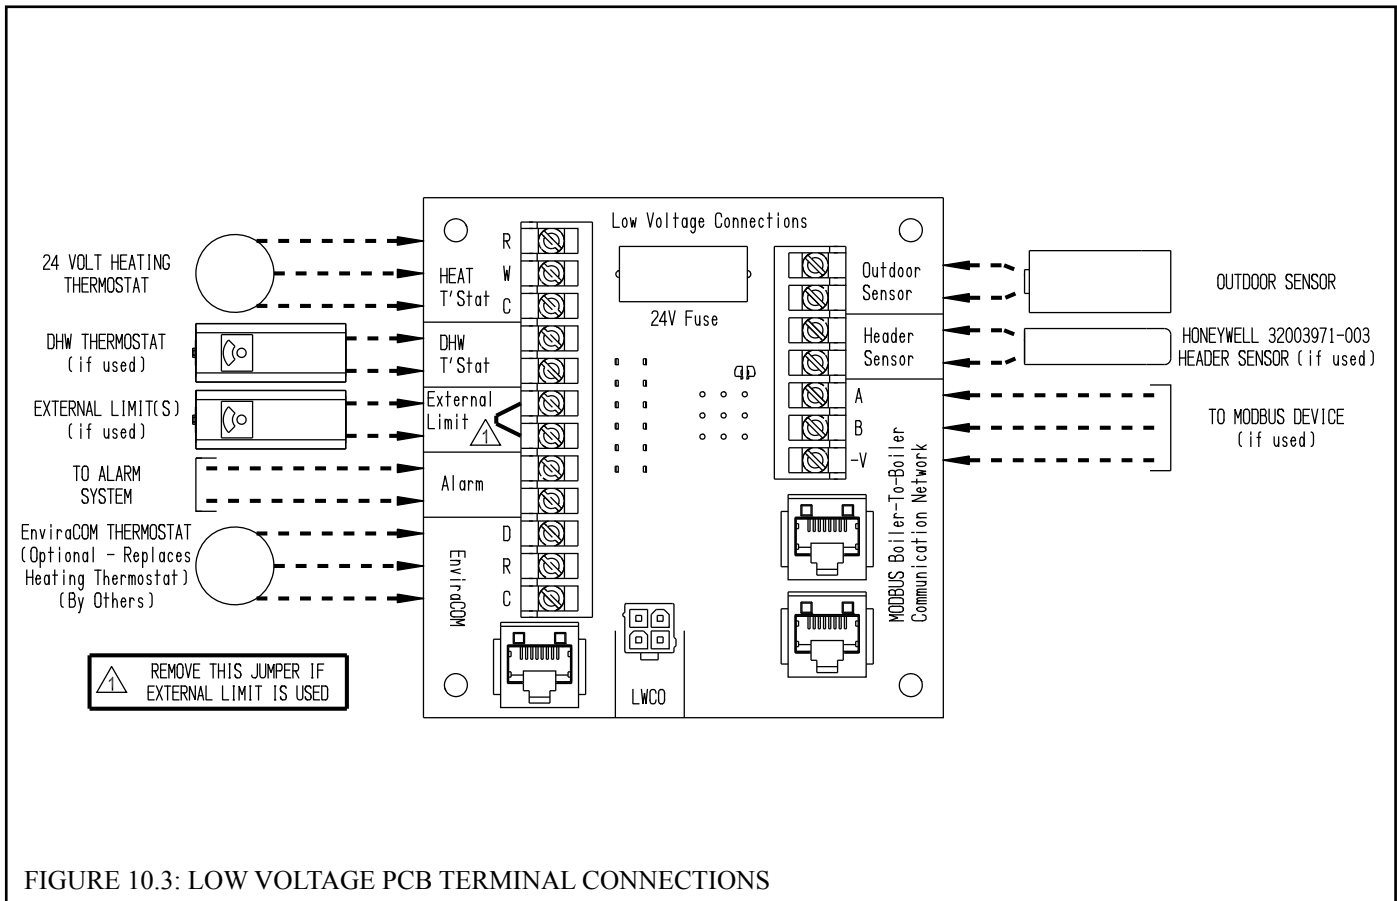

FIGURE 10.3: LOW VOLTAGE PCB TERMINAL CONNECTIONS
This boiler is equipped with a listed high water temperature limit function. This limit provides boiler shutdown in the event the boiler water temperature exceeds the set point of the limit control. Certain Local Codes require an additional water temperature limit. If necessary, install an additional water temperature limit such as a Honeywell L4006 Aquastat. Wire as indicated in Figure 10.3.
2) Low Voltage Connections – Low voltage field connections on the low voltage PCB are shown in Figure 10.3 and are listed from top to bottom:
- DHW Stat - 24VAC domestic hot water thermostat (1)
- DHW Stat - 24VAC domestic hot water thermostat (2)
- External Limit - Field supplied low voltage safety limit contacts (1)
- External Limit - Field supplied low voltage safety limit contacts (2)
- Alarm Contact (1)
- Alarm Contact (2)
- EnviraCOM Device (D)